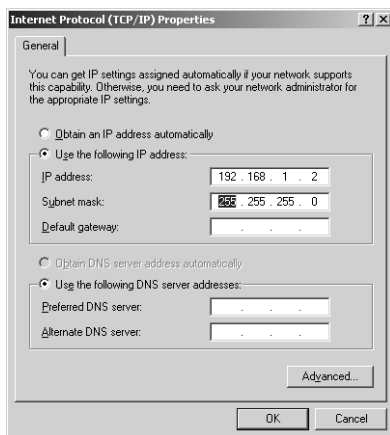

Figure 8: Internet Protocol (TCP/IP) Properties Window
6. Select Use the following IP address, and fill in the details as shown in Figure 8.